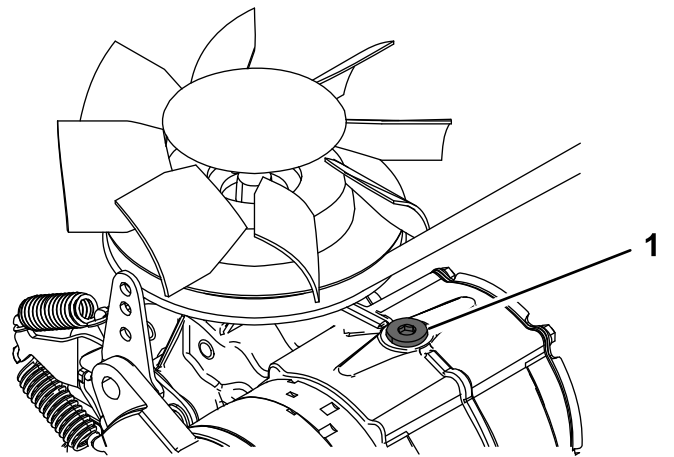

**Figure 47**
- 1. Rear bolt (2)
- 3. Side bolt (4)
- 5. Locate the drain plug in the bottom of each transmission, then place a drain pan under the plugs (Figure 47).
- 7. Remove the hydraulic-filter cap and hydraulic filter from each transmission (Figure 47).